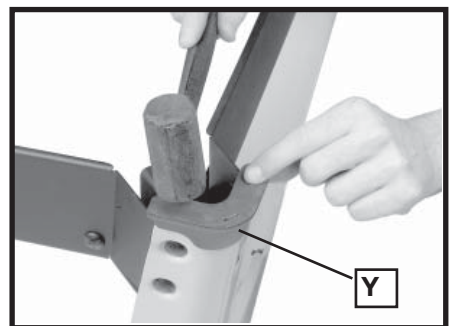

Fig. 24
Install the Plastic Feet (Y) Fig. 24 by placing them around radius at end of legs as shown. Tap the feet in place with a soft hammer or using a regular hammer and a block of wood.